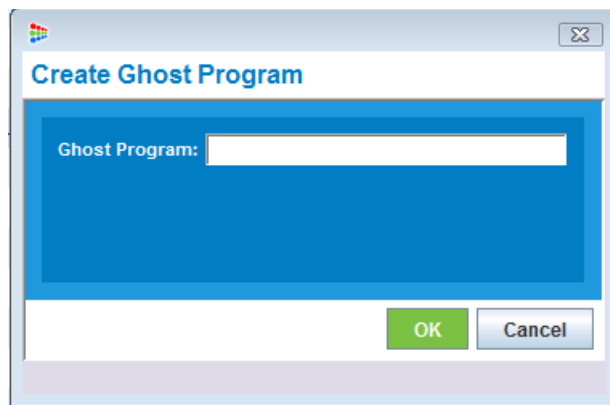

Figure 166. Create Ghost Program
3. The **Create Ghost Program** screen of Figure 166 appears.